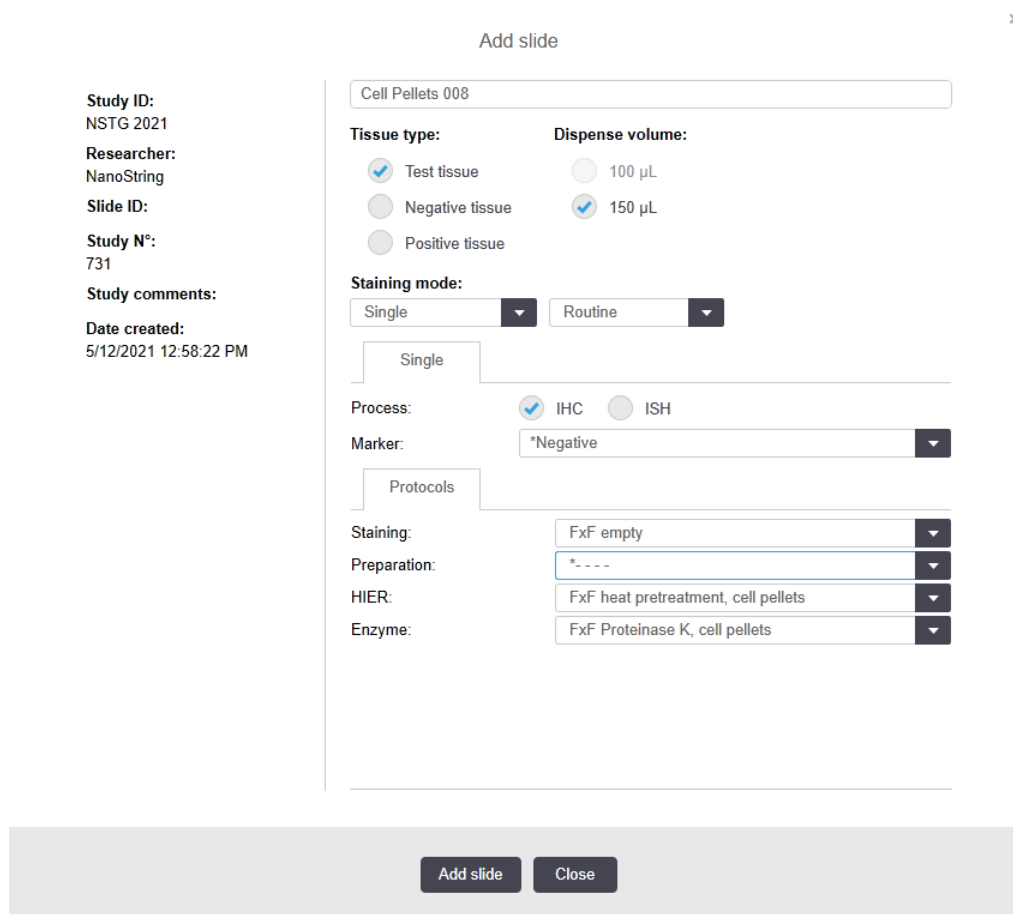

Figure 79: Add slide window - Fixed Frozen protocol
3. In the **Add Study** window (see Figure 79), enter your study information: